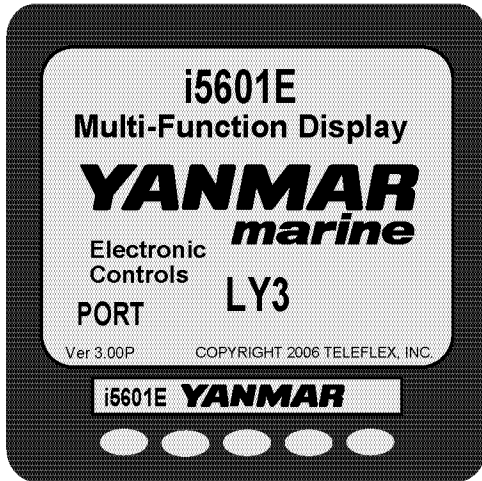

Figure 2
4. Turn on the battery switch and the start-up / version screen (Figure 2) pops up on the display. Then, the screen will change to the engine data display mode.